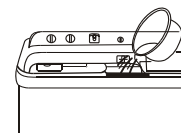

Figure 2
(2) Fill the water and add the dissolved washing powder to make the water level reach the preset position. (Figure 2)